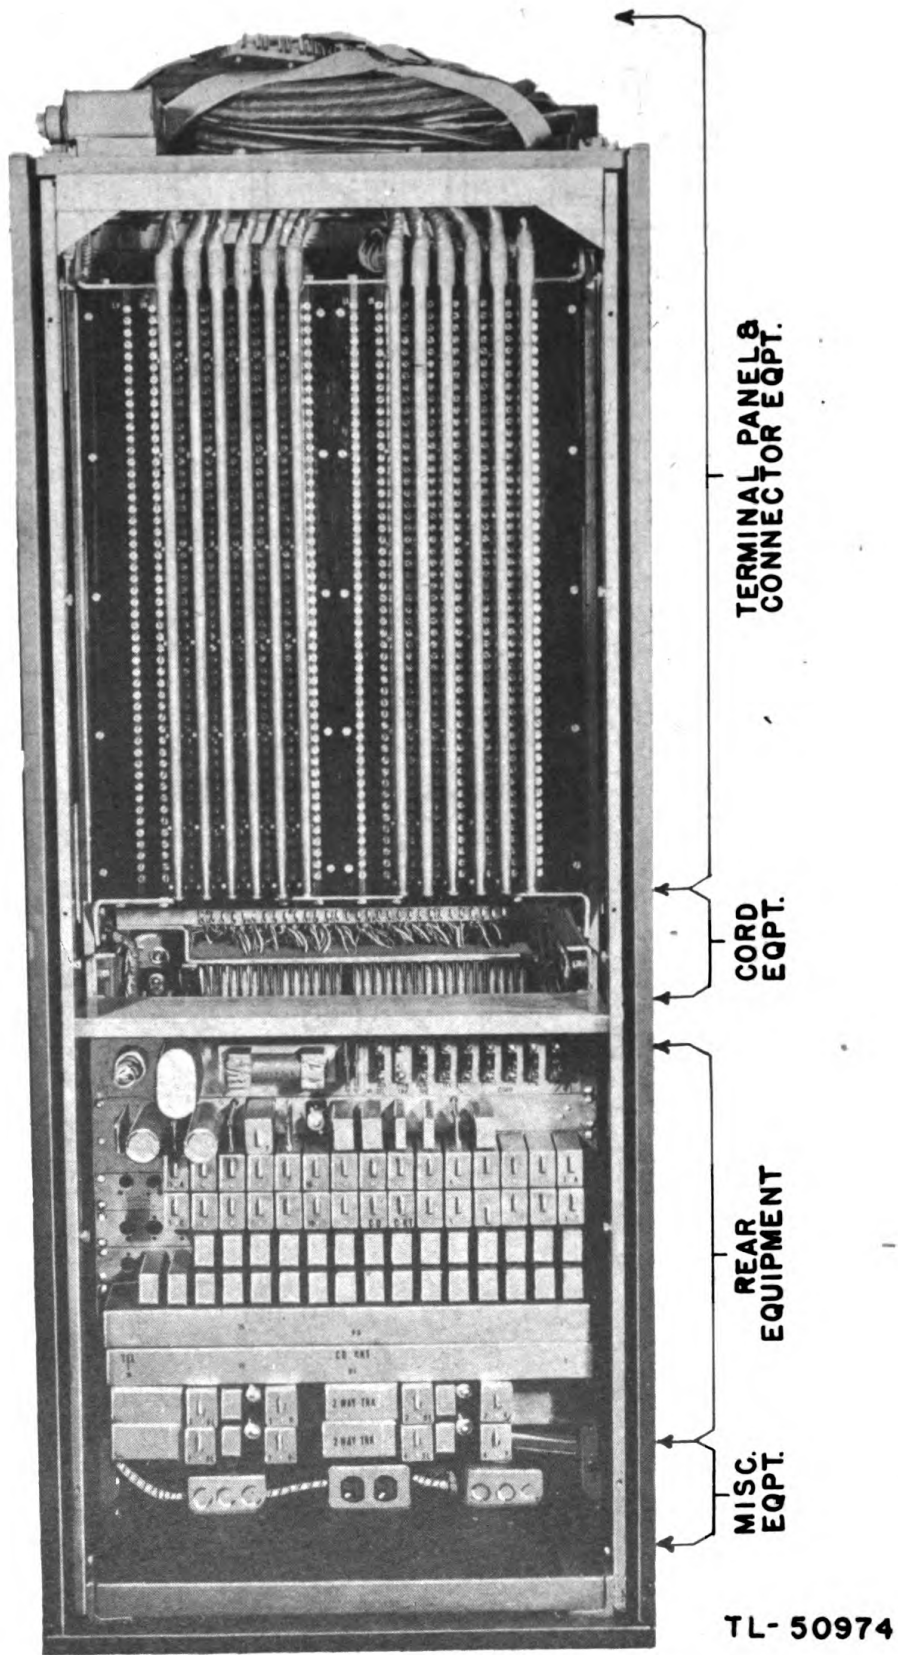

Figure 17. Switchboard BD-110-(), rear view.
a. Disconnect and remove the spade terminal strips stored during transportation on the terminal panels of Switchboards BD-110-() (fig. 17). Terminal strips which are to be connected back into the same boards need not be removed. Table II indicates these terminal strips. Tighten and loosen binding posts with a screwdriver.